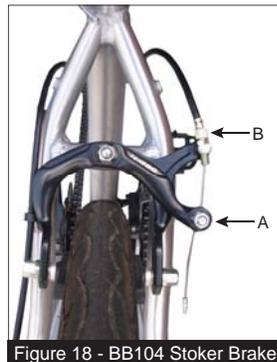

Figure 18 - BB104 Stoker Brake
**Captain Disc Brakes:** Use the barrel adjuster on the brake lever (B in Figure 18) or the in-line barrel adjuster (A in Figure 18) to remove any cable slack from the system. Turn the adjuster out until there is no free play in the lever but not so far that the torque arm on the caliper is advanced. The torque arm should return completely when the brake lever is released.
**Stoker Rear Standard Brake Caliper:** Loosen the fix bolt (A in Figure 18) and the barrel adjuster (B in Figure 18). Pull out cable slack with a pair of pliers. Tighten the fix bolt and the barrel adjuster.
**Remove the Rear Wheel:** Removal and installation of the rear wheel has a few extra steps because of the gear cluster. Just like the front wheel, you'll need to deflate the tire. If you do not wish to deflate the tire, it will be necessary to loosen the fix bolt (A in **Figure 18**). Next, adjust your rear shifter until the chain is on the smallest sprocket. Then loosen the quick release lever and carefully removed the wheel.
**Install the Rear Wheel:** To re-install the rear wheel, first place the chain back onto the smallest sprocket, and then slide the axle evenly up into the rear dropouts. Tighten the quick release lever the same way as the front wheel, with the lever on the left side of the bike. Make sure the lever is safely tucked in between both of the left chain stays. Inflate the tire AFTER it has been installed. Make sure the pads are lined up correctly with the rim and tighten the fix bolt (A in **Figure 18**) if you removed it earlier.